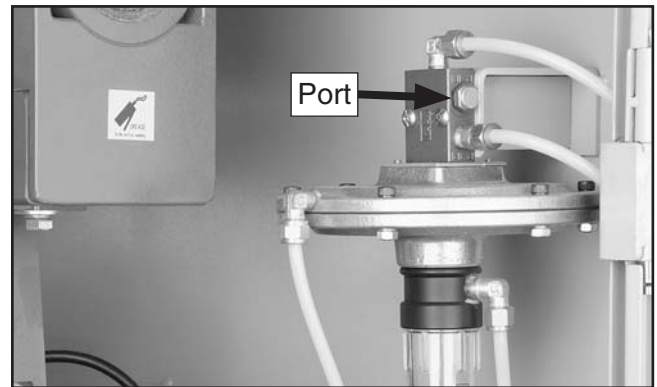

Figure 53. Upper bolt on diaphragm assembly.
A. With the motors **OFF**, place one finger in front of the air jet to block the air flow. Place another finger over the exhaust port on the diaphragm assembly (see **Figure 53**).